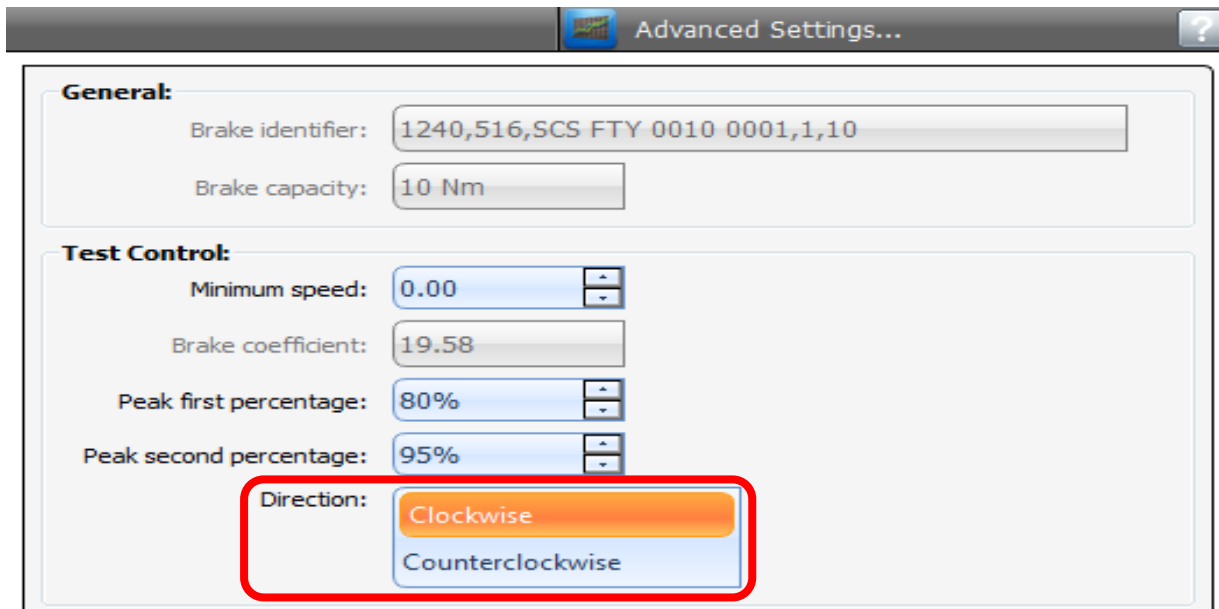

Figure 3
- **tightening direction** (clockwise or counterclockwise), it is reported in the advanced settings of the device used to execute the test (See **Figure 3**). The operator is in any case able to modify it.